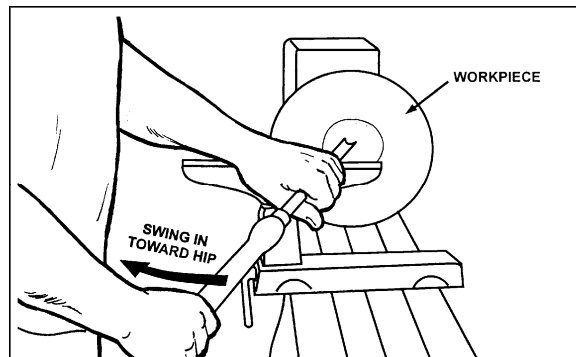

Figure 45
5. Place 1/2" bowl gouge on tool support at center of the workpiece with the flute facing top of bowl. The tool handle should be level and pointed toward the four o'clock position, as shown in Figure 45.
6. Use the left hand to control cutting edge of gouge, while right hand swings tool handle toward your body (Figure 45). The flute should start out facing top of workpiece, and rotate upward as it moves deeper into the bowl to maintain a clean even curve. As the tool goes deeper into the bowl, progressively work out toward the rim. It may be necessary to turn the tool support into the piece as you get deeper into the bowl.